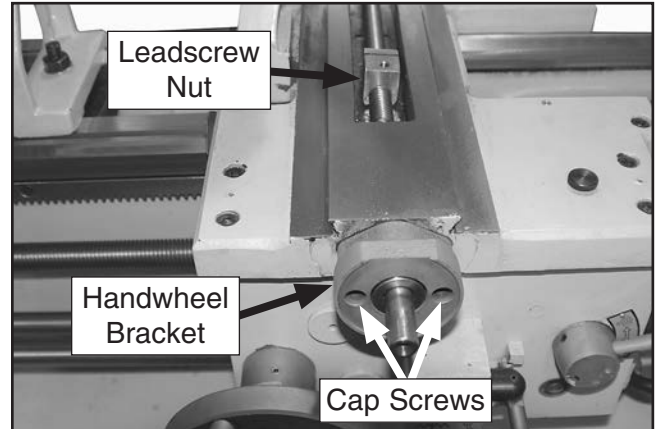

Figure 16. Taper attachment leadscrew assembly installed.
- Slide the leadscrew assembly into the saddle with the threaded hole in the leadscrew nut facing up, as shown in **Figure 16**.